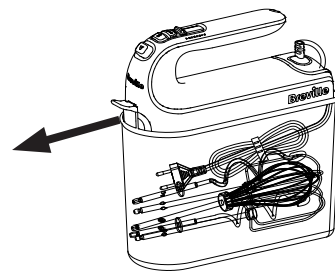

Figure 7
To remove the hand mixer from the storage case, push front tab away from the mixer and pull out the mixer. (see Figure 7)
**NOTE:** Allow for 8-10 inches of uncoiled cord from the back of the unit in order to fit into the storage case. (see Figure 7)